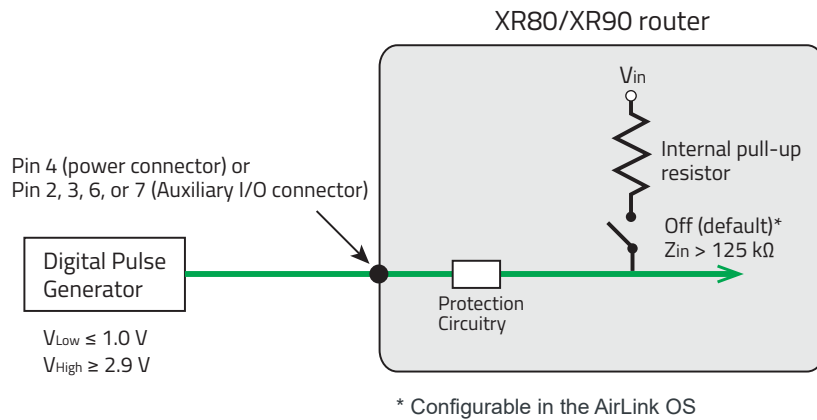

Figure 2-17: Digital Input / Pulse Counter
- Pulse counters—See Figure 2-17 on page 39.